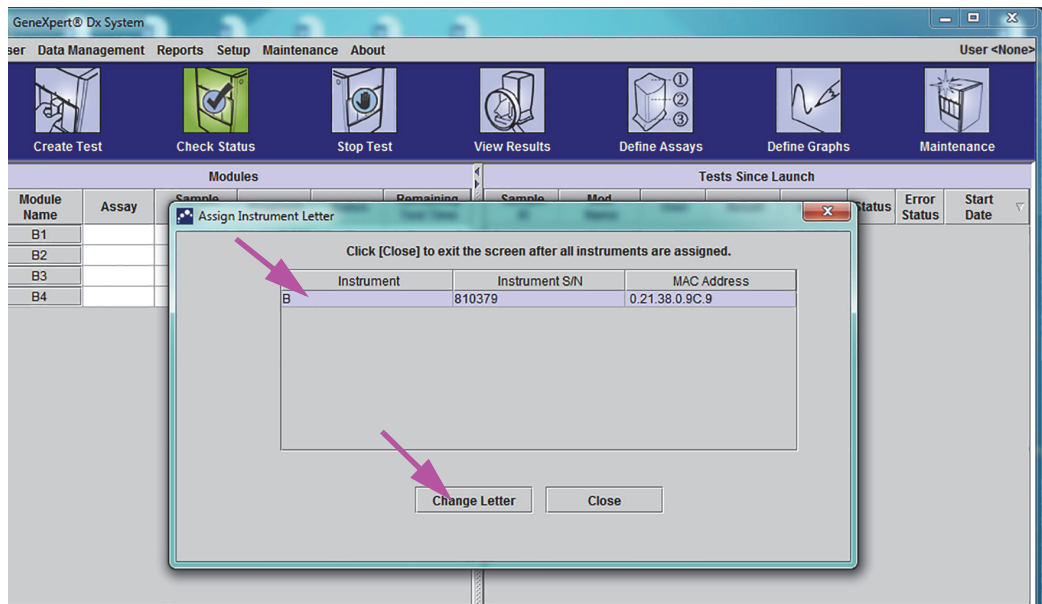

Figure 2-28. GeneXpert Dx System Window with Assign Instrument Letter Dialog Box Overlay
- To change the assignment letter, click to select the instrument to change and then click **Change Letter** in the Assign Instrument Letter dialog box (see Figure 2-28).